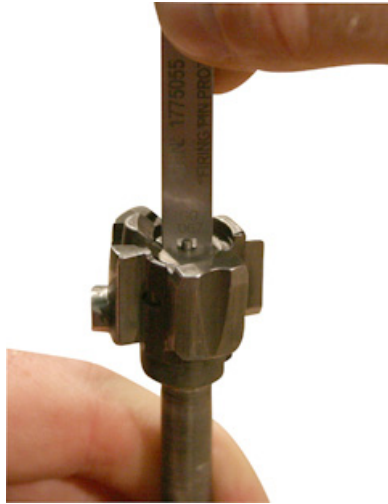

Figure 5. Using the “Go” Side of the Firing Pin Protrusion Gage.
1. With the rear of the bolt on a flat surface and firing pin installed, sweep the “go” side of the gage across the firing pin. The gage should run freely over the firing pin. If the gage catches on bolt or firing pin, regage with a different firing pin. If the bolt fails gaging again, replace the bolt. Refer to Figure 5.